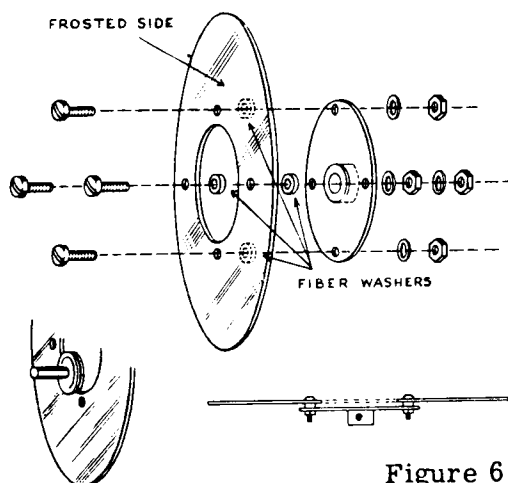

Figure 6
- () Connect the other lead to pin 6 on the tube socket (NS).
- () Connect one end of an orange wire, 8" long, to pin 6 (S). Leave the other end free.
- () Connect one end of a red wire, 7" long, to pin 5 (S). Leave the other end free.
- () Connect a black wire to pin 4 (NS). Run the wire through the 5/16" rubber grommet to terminal 1 of the pilot light (NS).
- () Connect a short bare wire from terminal 2 of the pilot light (S) to the adjacent solder lug (S).
- () Connect the 3/8" lead to pin 4 (NS).
- () Connect the end of a black wire 8" long to pin 4 (S). Leave the other end free.
- () Assemble the tuning dial as shown in Figure 6, using 3-48 screws, lockwashers and nuts with 1/16" fiber spacing washers.